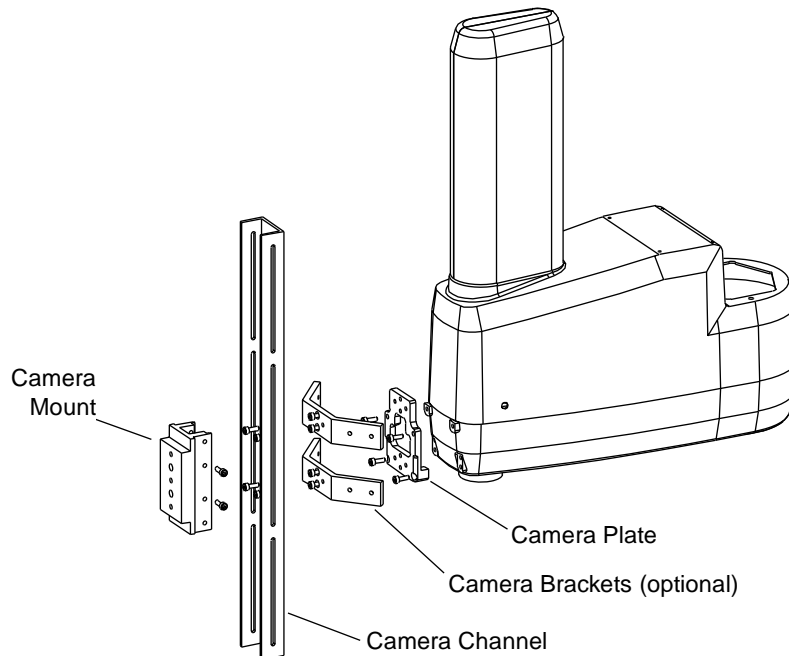

Figure 6-9. Mounting a Camera on the Cobra Robot
1. Install the camera plate to the outer link with four M5 X 12 mm screws (see Figure 6-9 as you perform this procedure).